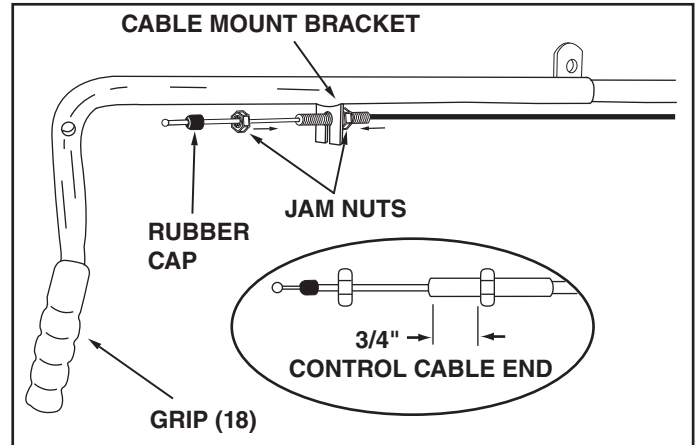

FIGURE 9
STEP 9: Remove the rubber cap and the first jam nut from the threaded end of the control cable and slide them onto the control cable wire. Adjust the second jam nut on the threads so that it is approximately 3/4" from end. Assemble threaded end of cable through the cable mount bracket and secure it with the first jam nut. Reinstall the rubber cap onto the threaded cable end. See figure 9.
- Install grip (18) onto the end of the lift handle tube.